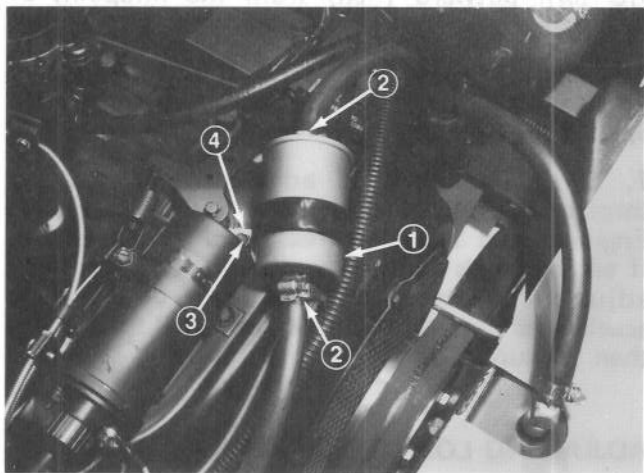

Figure 64
1. Clamp both fuel lines that connect to the fuel filter (Fig. 64) so gasoline cannot drain when lines are removed.
2. Loosen the hose clamps (Fig. 64) at both ends of the filter and pull fuel lines off filter.
3. Remove capscrew and lockwasher holding filter clamp to engine (Fig. 64). Slide filter out of clamp.